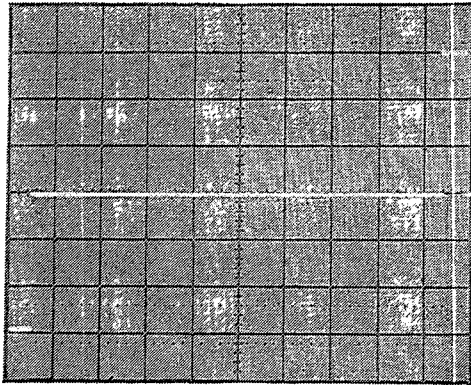

Figure 4-10
22. Adjust the controls of the Pulse Generator to give a combined Channel A and Channel B signal with 0.2ms negative-going and 0.2ms positive-going pulses as shown (Figure 4-10) and a repetition rate of approx 4Hz. The oscilloscope timebase should be set to 20us/DIV for best resolution when setting the 0.2ms pulse widths.